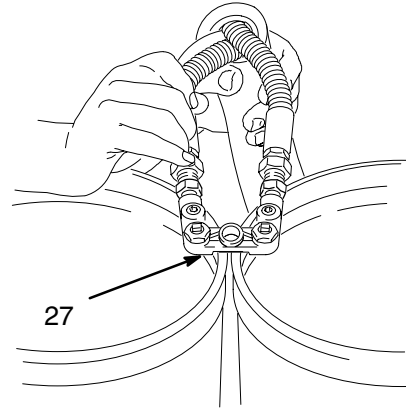

Fig. 17
1. Open the feed pump air valves (8).
2. With the gun disconnected from the manifold, hold the manifold (27) so each outlet port is directly over a separate waste container as shown in Fig. 17.